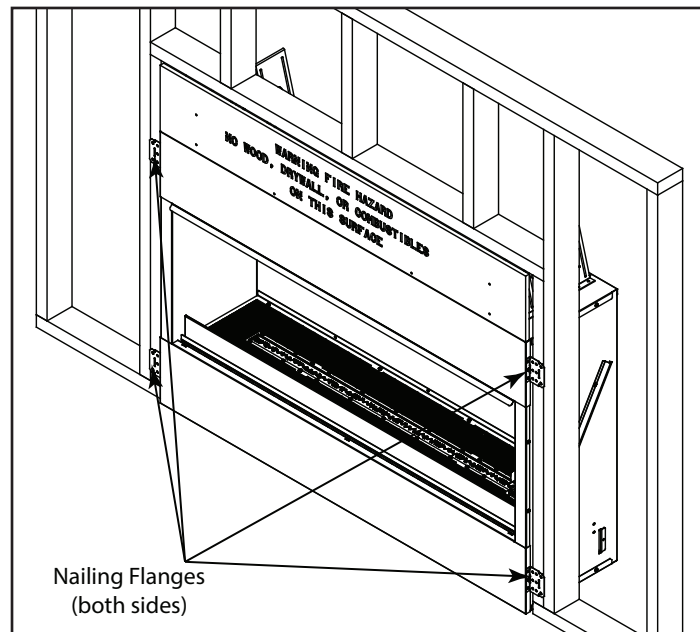

Figure 4.1. Positioning and Securing Nailing Flange
- Nailing tabs must be moved from shipping position to installation position and secured to framing. Bend the four nailing tabs out on each side. See Figure 4.1.